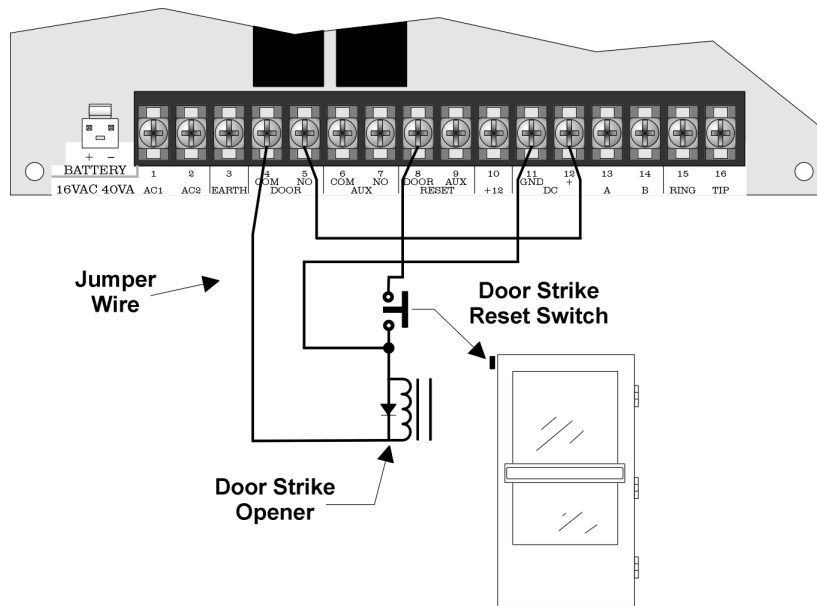
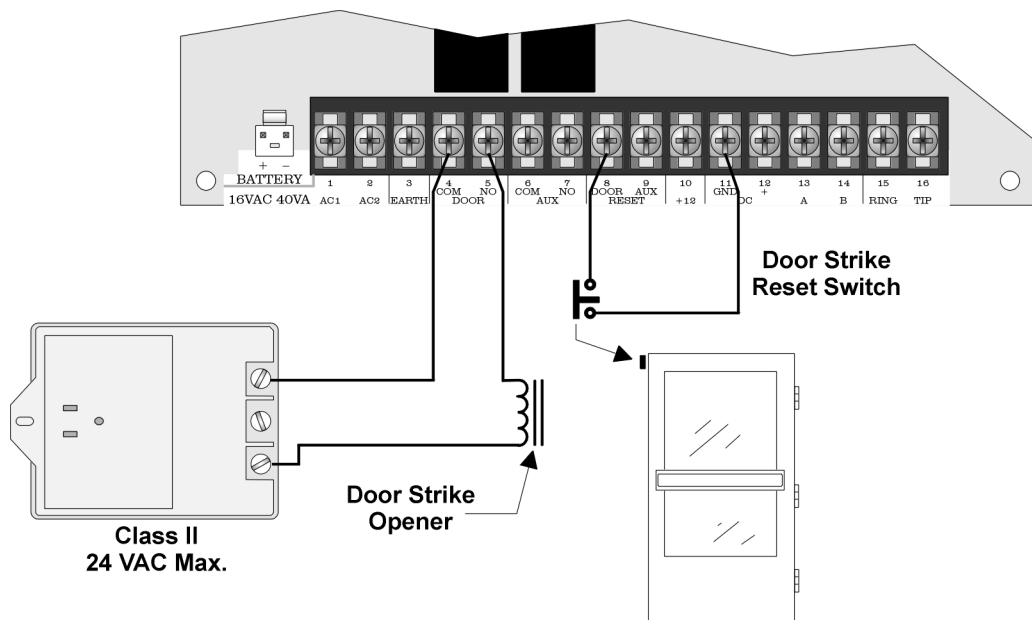

Figure 3-10 DC Doorstrike Wiring Diagram
Figure 3-11 AC Doorstrike Wiring Diagram
2. For a DC power doorstrike place a jumper wire between terminals 5 and 12 (see Figure 3-10).
3. Connect the doorstrike to terminals 4 and 11 (see Figure 3-10).
4. Install a reverse bias diode (1N5401 supplied with the 5083 and 5084 panels) across the DC doorstrike coil to suppress arcing and electrical noise. (See Figure 3-10.)
2. Wire a transformer (24 VAC maximum) in series with the door strike opener, to terminals 4 and 5. (See Figure 3-11.)
1. Wire the contact to terminals 8 and 11. (See Figure 3-10 or Figure 3-11.)